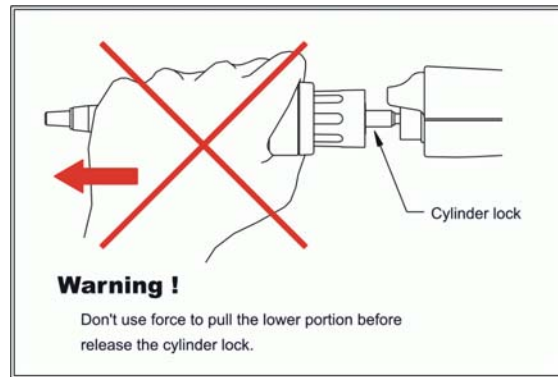
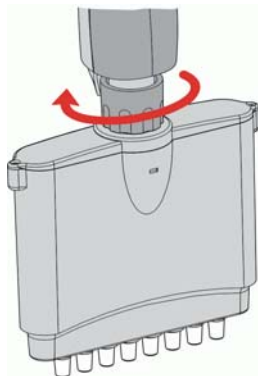

Figure 9: Incorrect removal of the lower piston assembly.
Figure 10: Loosen the connecting nut by unscrewing counter- clockwise.
Only the lower piston assembly of Denville XLE electronic pipette can be steam-autoclaved (121°C, 1 bar, 20 minutes). NOTE: It is important not to exceed the temperature of 121°C or 20 minute time during the autoclaving cycle. Autoclaving at a higher temperature or for longer period of time will damage the manifold and void the warranty. The autoclaved parts must be allowed to dry completely at room temperature for at least 2 hours before reassembly. Users can follow Figures 10~13 to disassemble the Denville XLE electronic pipette. Please “DO NOT” use excessive force to pull down the lower part before releasing the cylinder lock as shown in Figure 9. This action will break the connection mechanism of the lower part, permanently damaging the instrument and will void the warranty.
2. Loosen the lower part of Denville XLE electronic pipette by unscrewing the connecting nut in counter-clockwise direction as shown in Figure 10.